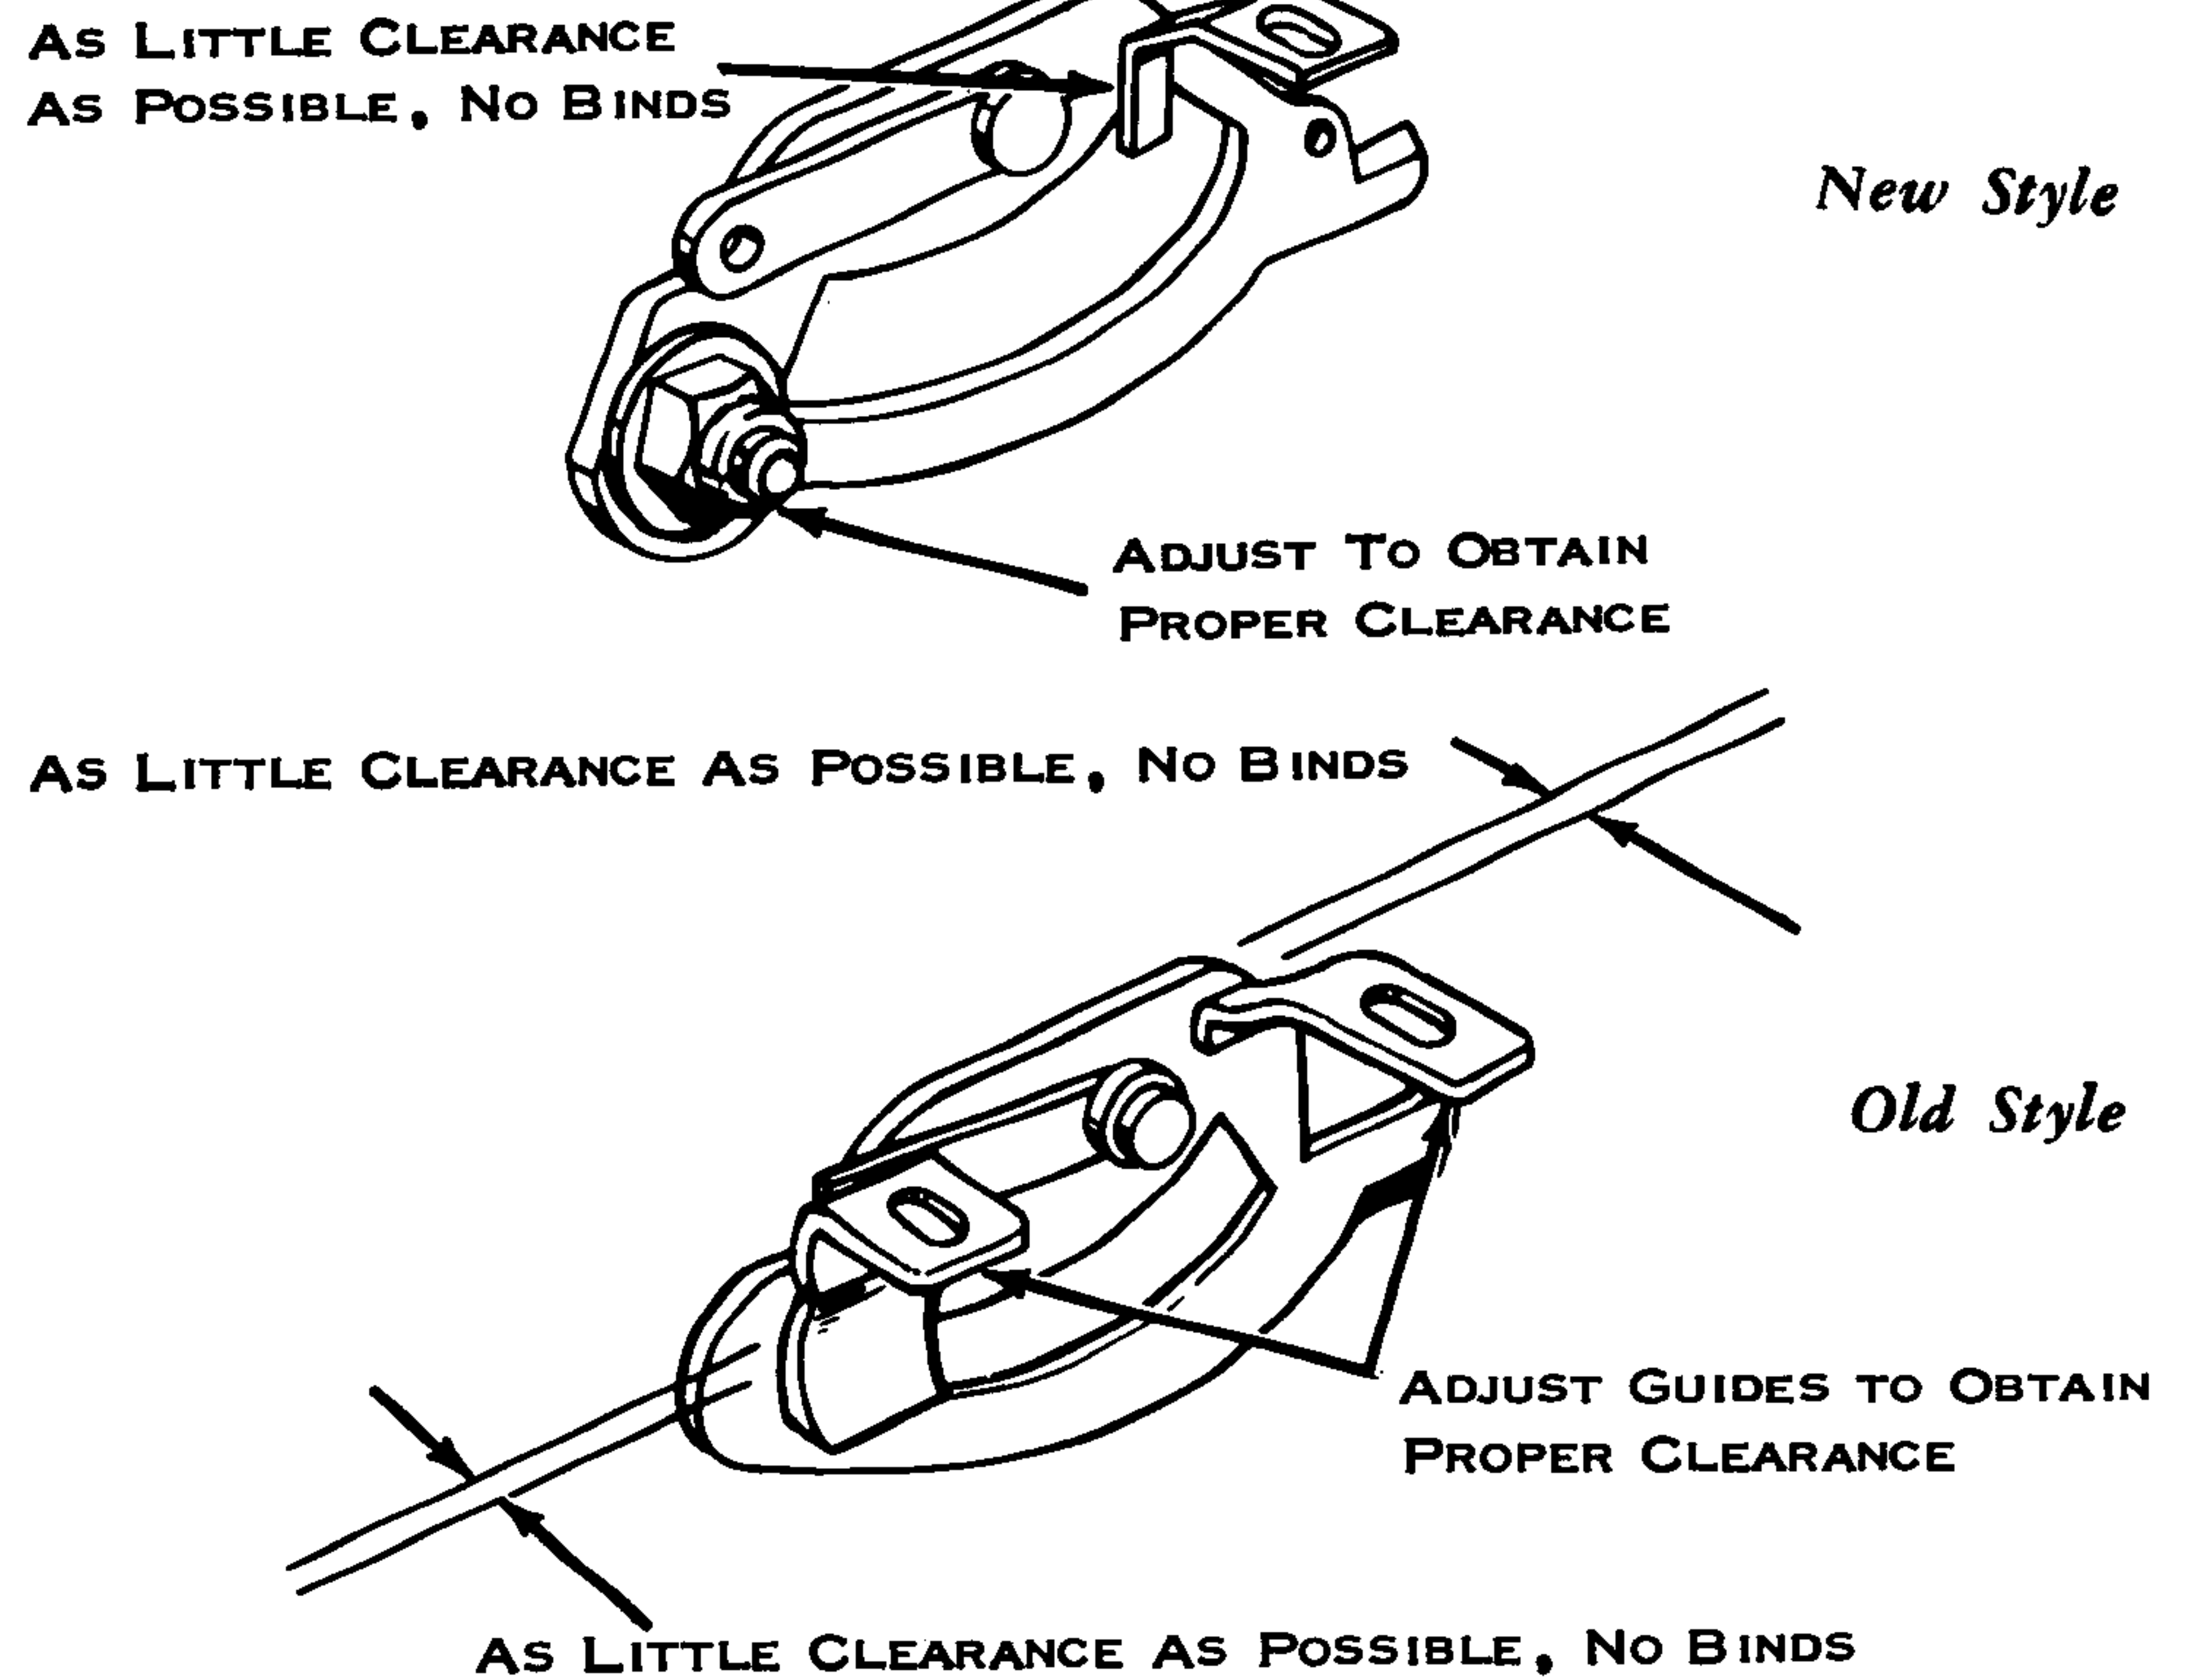

Figure 62. Rotate Detent Guide
4. Rotate Detent Guides (Fig. 62) - Adjust front and rear guides left or right so that as little sideplay as possible exists without binding the detent.